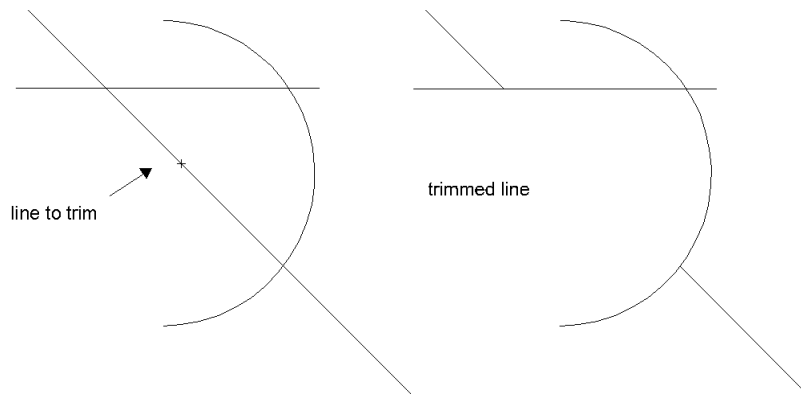

Figure 12.5: Selecting the line segment you want trimmed (removed)
4. Click on the line or arc segment that you want trimmed (removed). DataCAD searches for the nearest intersections and trims to the intersection points (see Figure 12.5).